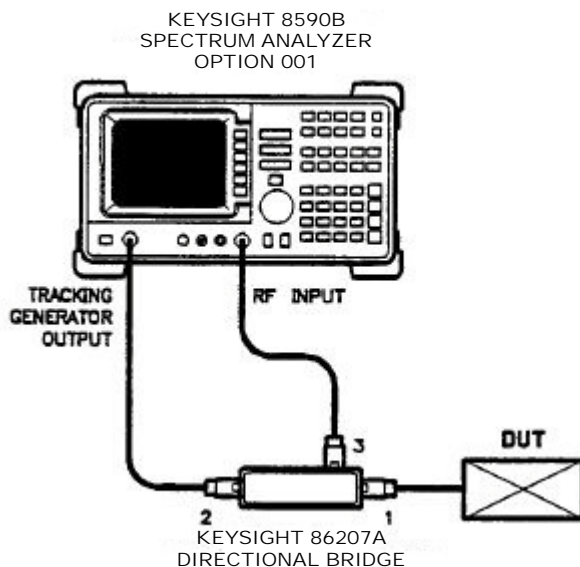

Figure 2-6 Reflection measurement setup
- 1 Connect the equipment as shown in Figure 2-6.